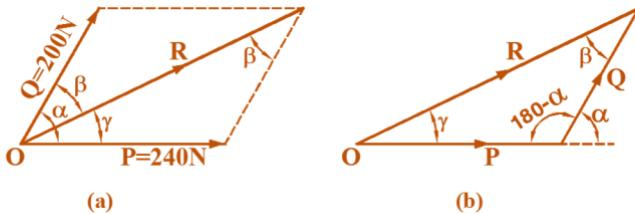

Fig.P1.1
*Two forces of magnitude 240N and 200N are acting at a point O as shown in fig.P1.1. If the angle between the forces is 60°, determine the magnitude of the resultant force. Also determine the angle made by the resultant with each of the forces.*